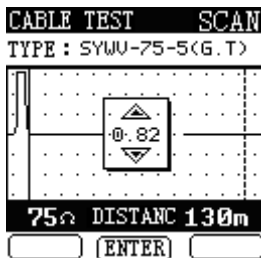

Figure2-2
Presses the F3 [COEFF] key, pop the type and coefficient setup interface (As shown in Figure2-2), press  to select the cable type, F2 to confirm.
2. Presses F3 [COEFF] key to pop the wave speed setting interface (As show in Figure2-2), press  to select the user cable type for calibration.